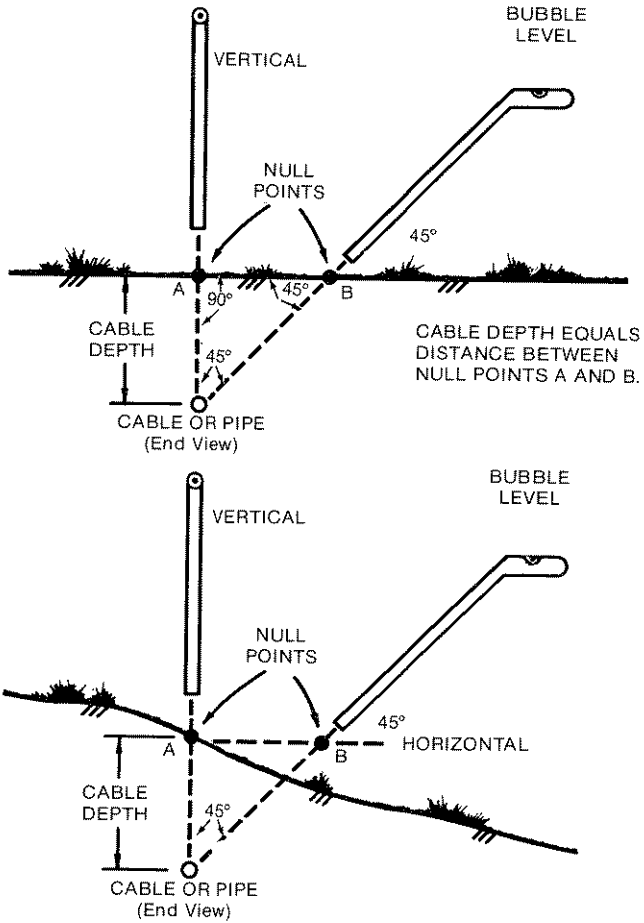

Figure 2-8.
5. Hold the snoop probe vertically (see Figure 2-8) and locate the NULL directly above the cable or pipe. Mark this spot as NULL point A.
6. Hold the snoop probe at a 45 degree angle (see Figure 2-8), using the bubble level located on the handle of the snoop probe. Move the snoop probe on a horizontal line away from NULL point A and at right angles to the path of the cable or pipe until a NULL is found. This is NULL point B.
7. The depth of the cable or pipe beneath NULL point A (see Figure 2-8) is the same as the distance between NULL points A and B.